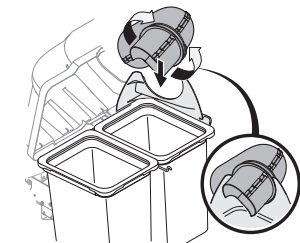

Figure 29
4. Continue to work the discharge chute down over the chute elbow until the groove on the discharge chute aligns with the upper chute support, as shown in the inset of Figure 29.